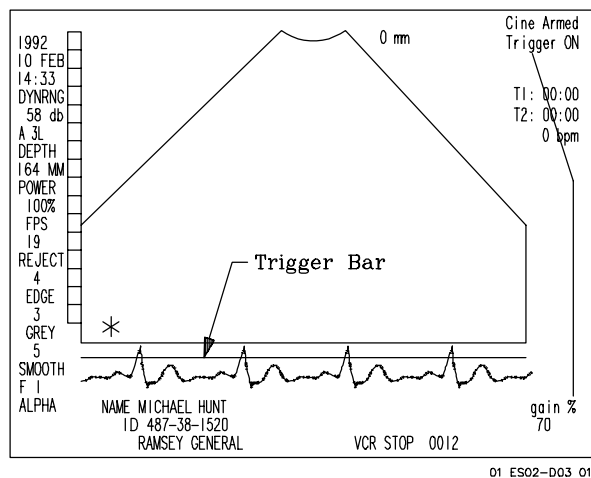

Figure 2C-7. ECG Reference Bar Positioning
6. Use the hand controller  and  keys to set the reference bar to intersect the top of the ECG R wave, but high enough not to intersect the T wave (see **Figure 2C-7**). Press NEXT. The following message appears: